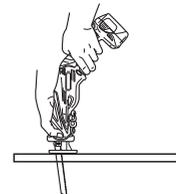

Fig. 32
- (3) Hold the body firmly until the saw blade completely cuts into the material (**Fig. 32**, **Fig. 33**).